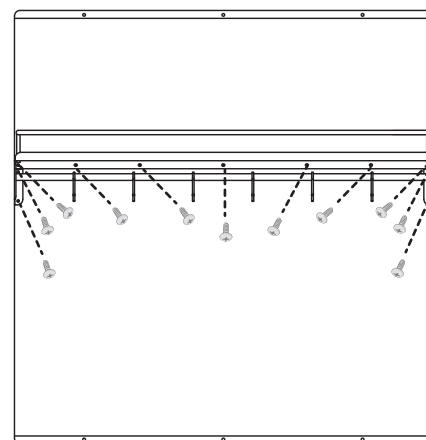

Figure 2
5. Attach the shelf to the backsplash using the 11 supplied screws ST4×8 (see Figure 2).